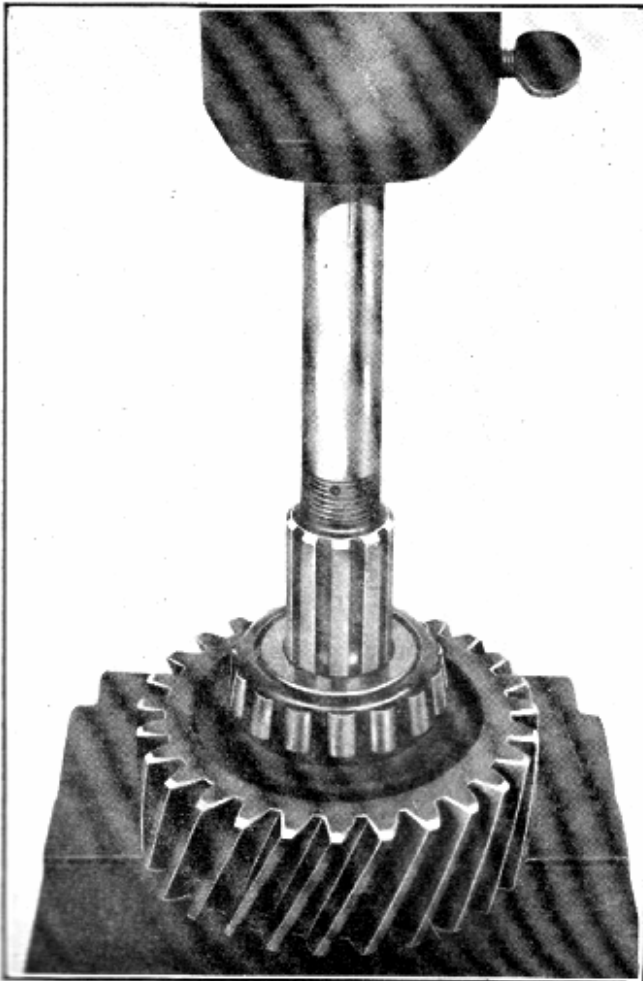
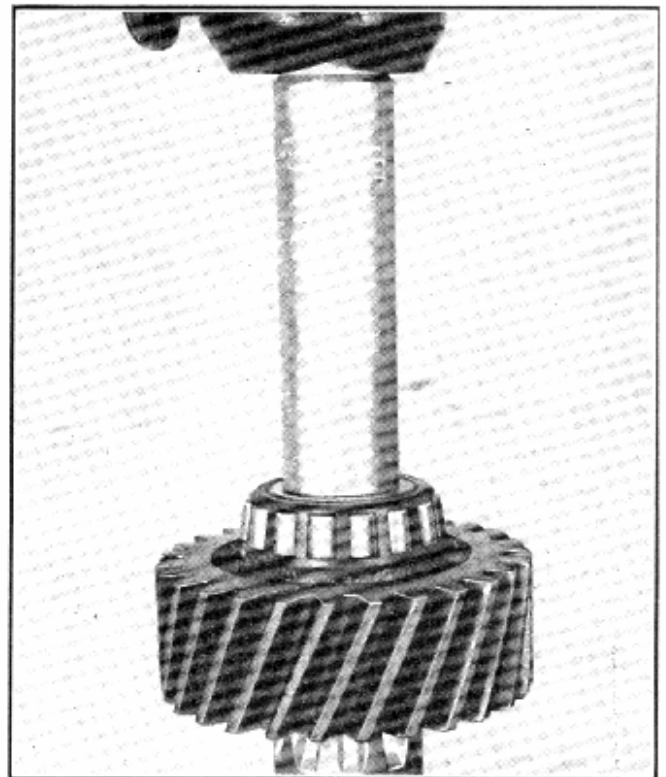

Fig. 7—Pressing Gear on Shaft
Fig. 8—Installing Main Shaft Rear Bearing, Tool No. J-1718
of the main shaft (53) into the splines of the gear. Press the shaft into the gear until it rests solidly against the shoulder of the shaft, (Fig. 7). If it is not assembled correctly it will be impossible to establish proper clearance between the gear face and the cover.
2. Using bearing cone replacing tool J-1718, drive or press the mainshaft front bearing cone (51) on, until it seats firmly against the shoulder on the shaft. The wider side of the bearing cone should face in.
3. Install the washer (51A) on the shaft and using bearing cone replacing tool J-1718, drive or press the mainshaft rear bearing cone (51) on the shaft solidly, against the main drive gear. The proper method of using this tool is shown in Fig. 8.